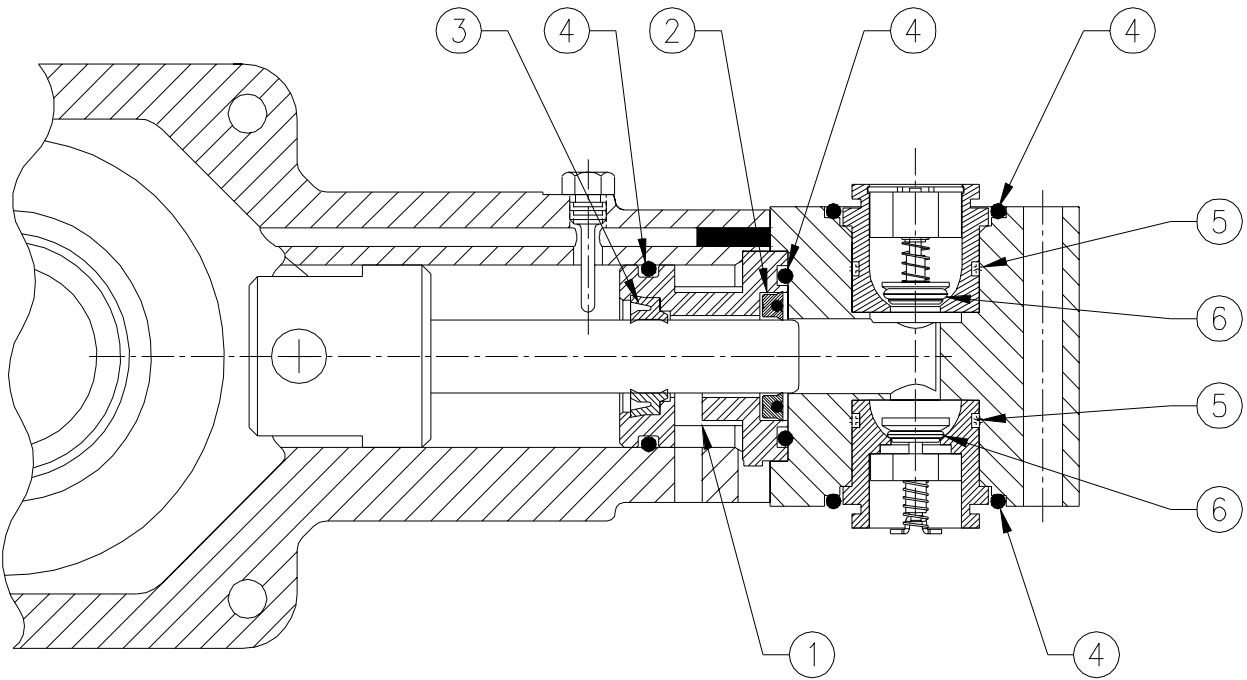

FIGURE 7
- 6) Remove oil and chemical poly paks. Use a needle nose pliers to pull seals from poly pak assembly. Be careful not to scratch sealing surfaces on plastic parts. (See Figure 7)
- 7) Install new seal kit. **NOTE:** The lip portion of both seals must face out. Care must be taken with the oil seal, so that its outside diameter is fully seated under the retaining lip of the sleeve (See Figure 7).
- 9) Apply a light coat of grease to the sleeve body o-ring and end of piston. Carefully push the seal sleeve assembly onto piston. Once piston end is past oil seal lip, rotate to see that it is not rolled under. The slot on seal sleeve must face down. Push the sleeve body all the way into housing (See Figure 7).